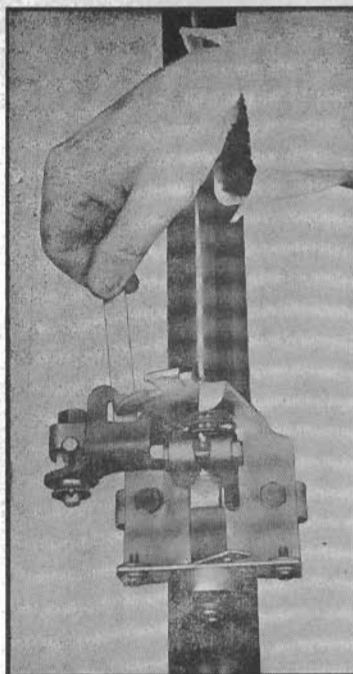

Fig. 15 Reverse stop to lower lever clearance. 1952-53 Powerglide
4. With selector lever in reverse, check clearance between reverse stop on control shaft lower support and lower lever, Fig. 15. This clearance should be $\frac{3}{16}$ in.